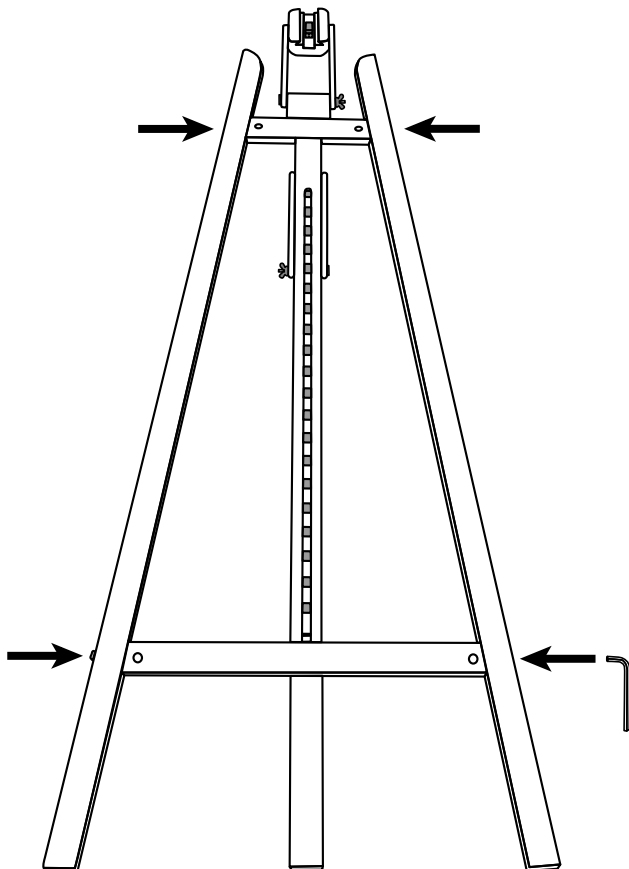
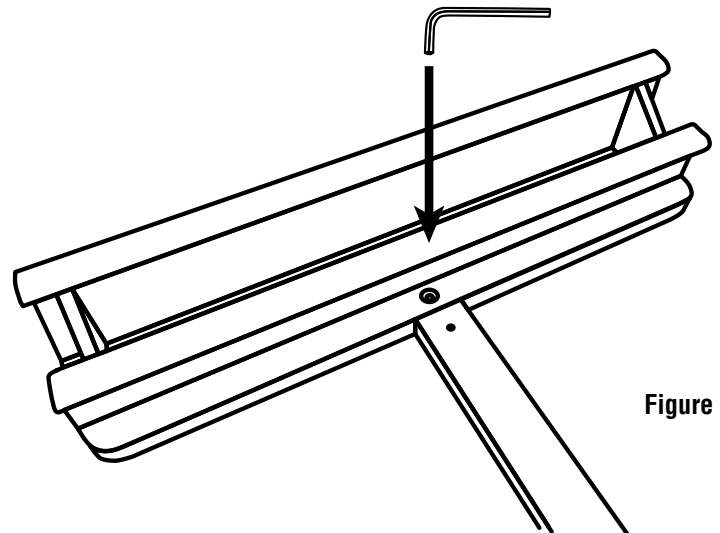

Figure 1
Figure 2
- 2** Some hardware may have loosened during transportation. For best results, we suggest that you tighten four Allen bolts in sides of main easel frame, as shown in Figure 1, and tighten the Allen bolt in the back of canvas support assembly, as shown in Figure 2.